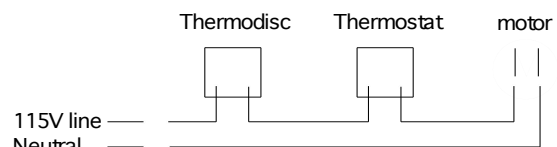

Figure 10
8. Make the electrical connections (Figure 10). The electric power must be 115 volts.